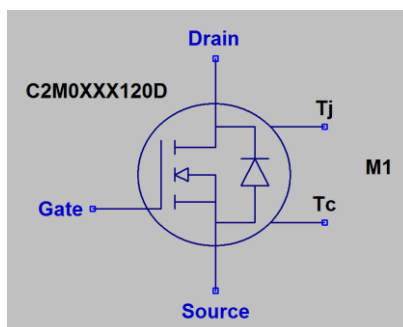

Figure 1. Device symbol in a schematic (reference purpose only).
4. The Device symbol will be similar to the one shown in figure 1. LTSPICE provides the option for changing the visibility of the labels associated with the terminals.